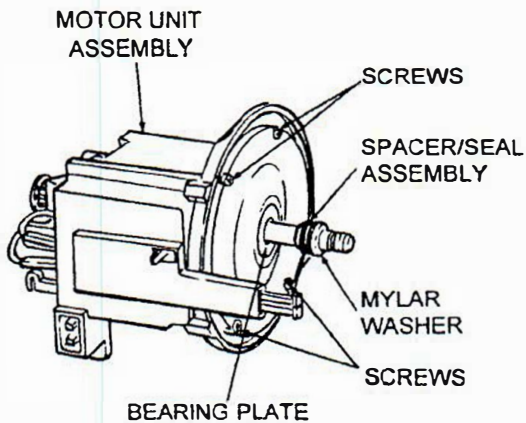

Figure 25. Spacer/Seal Assembly
2. See Figure 25. Install spacer/seal assembly with flat side of seal toward spacer shoulder and tapered side of seal toward bearing plate.
- C. See Figure 25. Remove four bearing plate screws and nuts from motor unit assembly.
- 2. See Figure 25. Install spacer/seal assembly with flat side of seal toward spacer shoulder and tapered side of seal toward bearing plate.